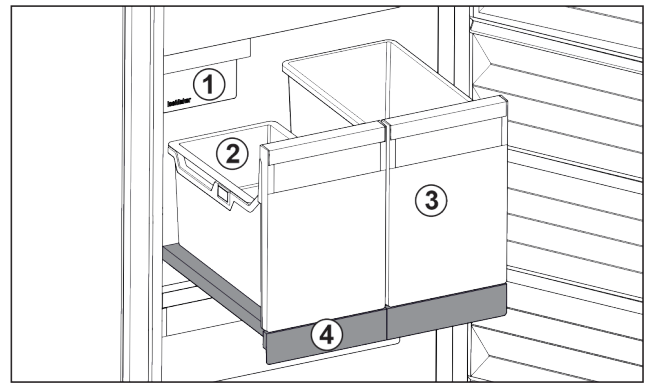

Fig. 88 Pull-out board with IceTower
- (1) IceMaker
- (2) Hang-on tray for ice cubes
- (3) Container for pizza or alcoholic beverages, for example
- (4) Pull-out board
There are two high (IceTower) containers on the pull-out board. Ice cubes from the IceMaker are collected and stored in the Fig. 88 (2) container. The container Fig. 88 (3) is suitable for storing tall foodstuffs or beverages such as pizzas or alcoholic drinks.